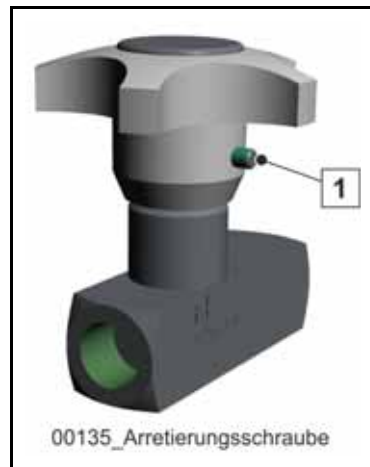

Fig. 331
- Loosen the locking screw (1) (**Fig. 331**) on the one-way restrictor
- Tighten the locking screw (1) (**Fig. 331**) on the one-way restrictor